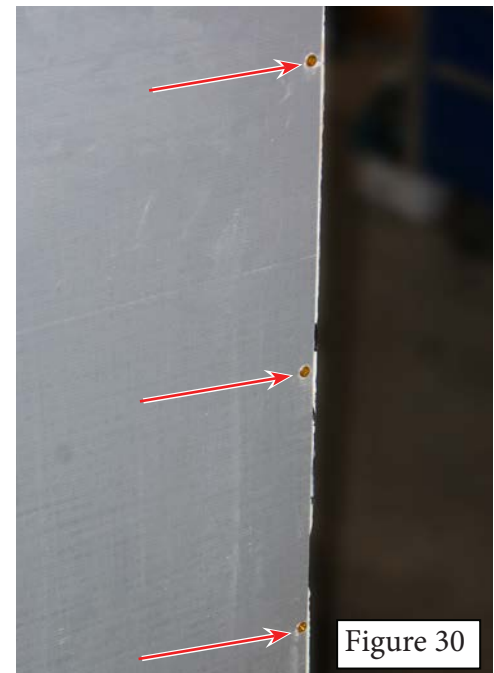

Figure 26
26. Use a power drill and a 3/8" spade drill bit to drill the holes for the LED lights (Figure 26).